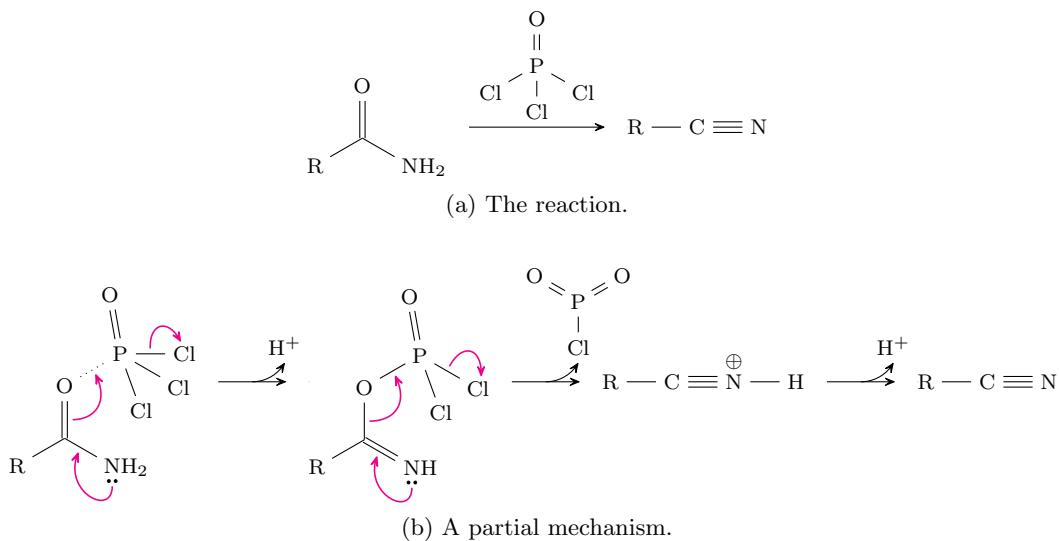

Figure 4.56: Nitrile synthesis: Dehydration of amides.
- We add  $\text{POCl}_3$  (the triacid chloride of phosphorous acid) to our amide (Figure 4.56).
- Synthesize them with an  $\text{S}_{\text{N}}2$  displacement of a primary or secondary halide (Figure 3.21), cyanohydrin formation (Figure 3.22), the Sandmeyer reaction (Figure 4.45b), or the dehydration of amides (Figure 4.56).